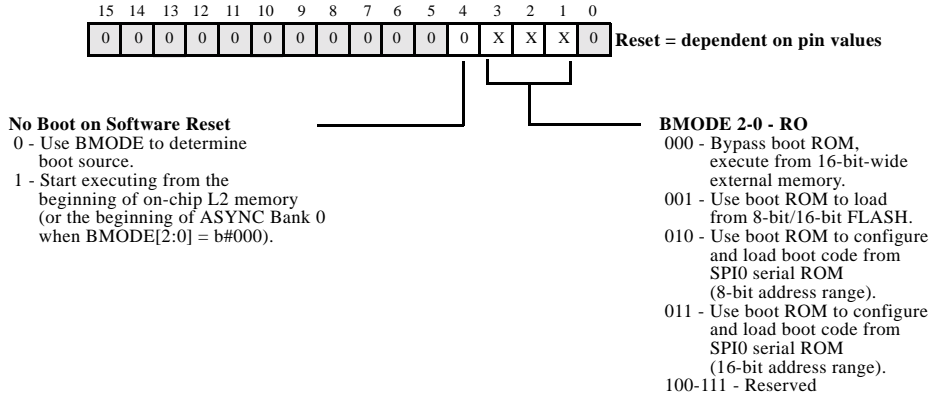

Figure 2-3. ADSP-BF535 Processors: System Reset Configuration Register
2. Checks whether the `RESET` was a software reset and if so, whether to skip the entire boot sequence and jump to the start of L2 memory (`0xF000 0000`) for execution. The on-chip boot ROM does this by checking bit 4 of the `SYSCR`. If bit 4 is not set, the on-chip boot ROM performs the full boot sequence. If bit 4 is set, the on-chip boot ROM bypasses the full boot sequence and jumps to `0xF000 0000`. The register settings are shown in Figure 2-3.